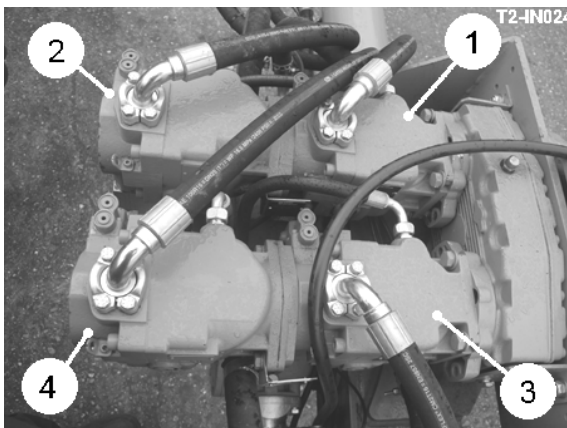
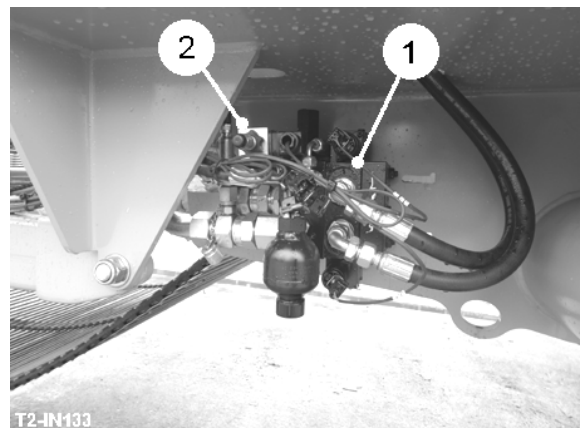
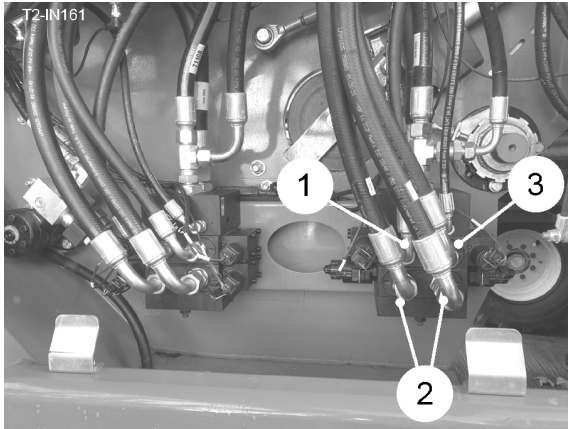
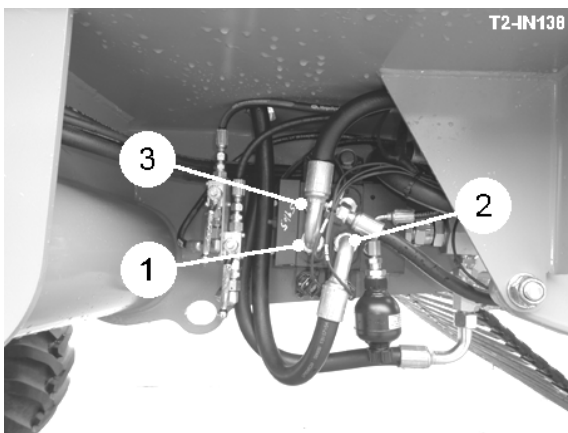

Fig 27
Fig 28
Fig 29
Fig 30
The pump (item 1, fig. 27) supplies the powered axle. From the pump the feed is into the valve (item 1, fig. 28). The axle drive is switched for forward and reverse from the slave box or the touch-screen. The  button overrides the external pressure control valve (item 2, fig. 28) and brings the maximum system pressure to the pump maximum.
The pump (item 2, fig. 27) powers the rear separator unit. From the pump the feed is into the valve (see fig. 29). ON/OFF control and scroll speed is proportionally controlled from the touch-screen. The clod rollers are in a series circuit fed from a double-acting valve allowing the clod roller set to be reversed. This also enables the operator to reverse the rollers to eject a blockage. The remaining valve section feeds the Omega transfer unit. A pressure transducer mounted next to the circuit filter monitors the working pressure within the circuit.
The pump (item 3, fig. 27) powers the digger web, sieving web and rotary agitators. From the pump the feed is into the valve (see fig 30). ON/OFF and speed control is from the touch-screen. The digger web speed should be adjusted to give a consistent crop take-away from the shares, and the sieving web speed should be adjusted to give a consistent crop take-away from the digger web. The agitators should be used to the minimum to separate the loose soil from the crop.
The pump (item 4, fig. 27) powers the front separator unit. From the pump the feed is into the valve (see fig. 31). On/off control and scroll speed is proportionally controlled from the service terminal. The clod rollers are in a series circuit fed from a double-acting valve allowing the clod roller set to be reversed. This also enables the operator to reverse the rollers to eject a blockage. A manual reversing valve is fitted to each clod roller motor allowing individual rotations to be set.